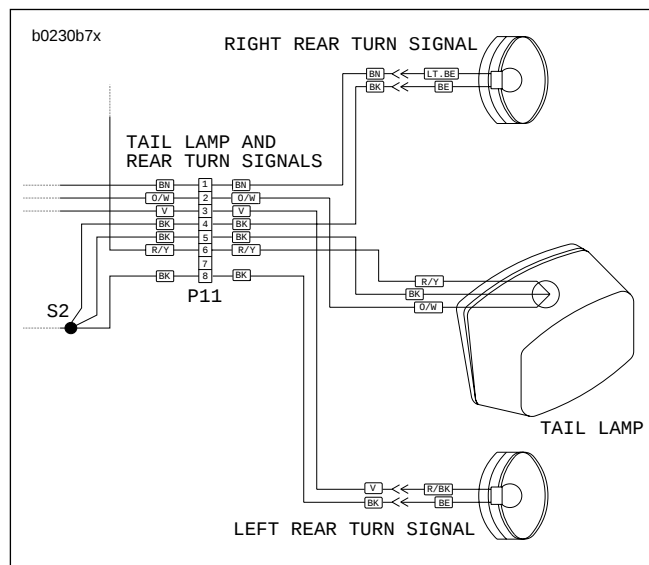

Figure 7-44. Rear Turn Signal Connections
3. See Figure 7-44. Disconnect bullet connectors on turn signal wires.
2. Attach bullet connectors on turn signal wires as shown in Figure 7-44.
3. Use **new** cable straps (5) to bundle turn signal wires beneath tail section.